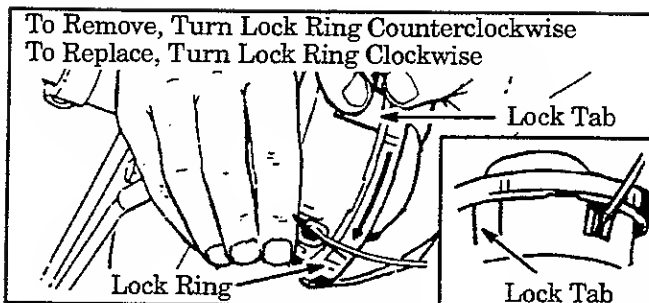

Figure 17
- Hold the trimmer head as shown in Figure 17. Press the lock tab and turn the lock ring.